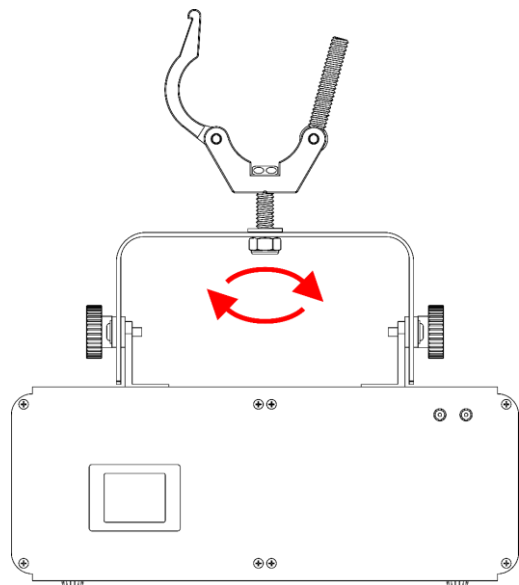

Fig. 06
- Fixed installation: Put the **locking hex nut (07)** on the **hex bolt (08)**. Turn the **locking hex nut (07)** clockwise, to tighten the load (Fig. 06).